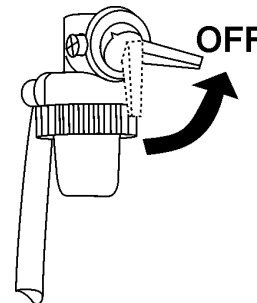

Figure 18. Engine Fuel Valve Lever (OFF)
- Place the engine fuel valve lever (Figure 18) in the **OFF** position.